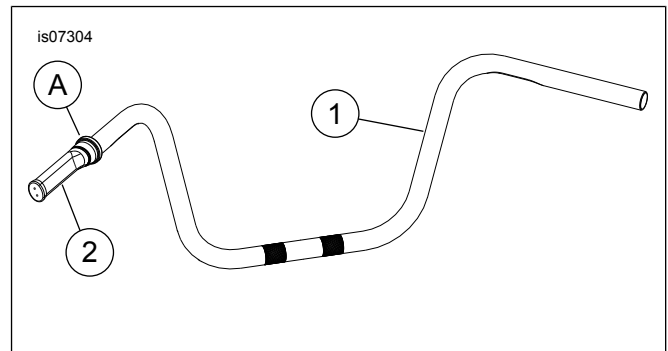

Figure 1. Service Parts: Reduced Clutch Reach Handlebars
See Figure 1 and Table 1.
7. See Figure 1. To complete the grip install, pull inward on grip from the inward end (A) to make sure the grip is fully seated.